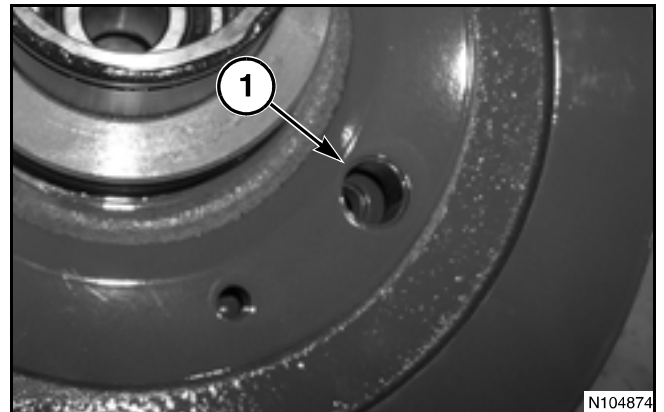

FIG. 274
FIG. 274: If the bushings (1) for the guide pins are being replaced, press new bushings into the outer sheave half. Press the bushings flush with the outer surface of the outer sheave half.